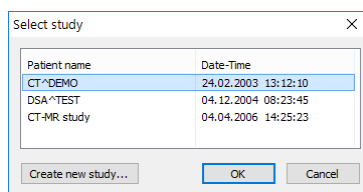

Figure 422 – Select study dialog
1. Select the existing study for the insertion of the new series from the studies list in the **Select study** dialog (see Figure 422).